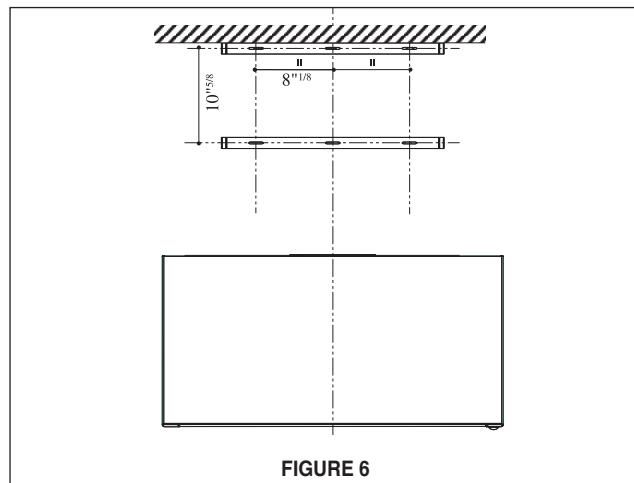

FIGURE 6
4. The **Telescopic Chimney Kit and Full Width Duct Cover** use different bracket systems to attach to the wall. **FIGURE 6** provides the position for the telescopic chimney brackets.